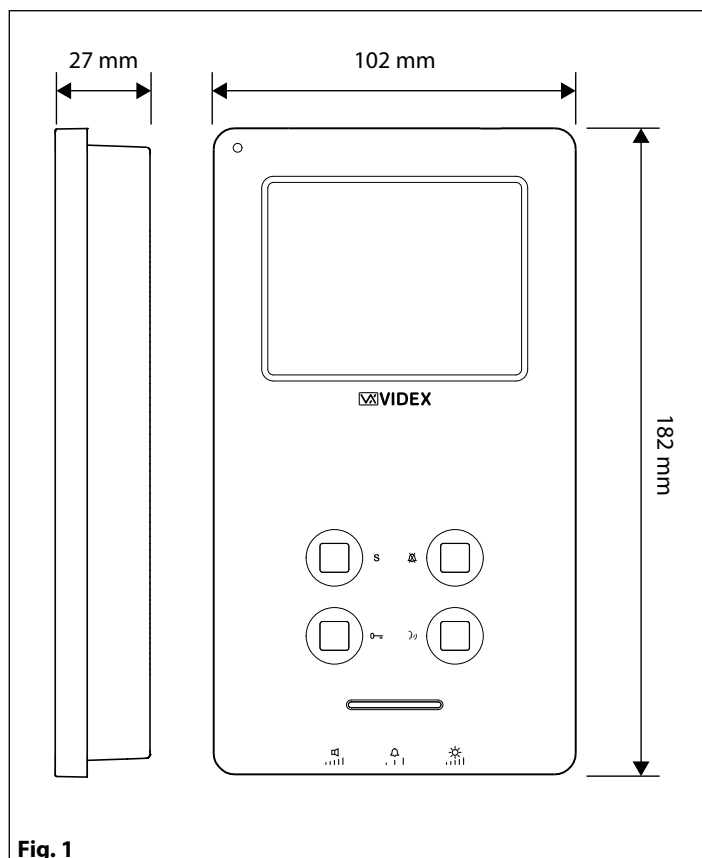
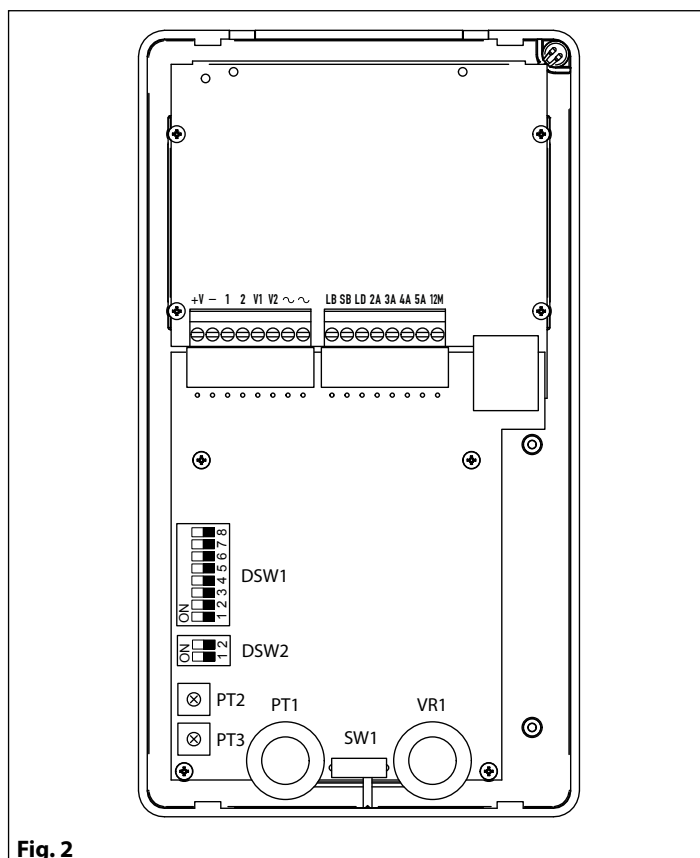

Fig. 1
Fig. 2
1. Place the surface box against the wall (165-170cm between the top of the box and the floor level as shown in **Fig. 1**) and mark the fixing holes for the wall plugs and the hole for the cables **E** (**fig. 2**). Observe the orientation of the box with the hinge on the left;
2. As shown on **Fig. 2**, drill the fixing holes **A**, insert the wall plugs **B** and feed the cables **E** through the surface box opening **D**, fix surface box **C** to the wall using the screws **F**;
1. Protect the module support frame fixing holes from dust then embed the back box into the wall (165-170cm between the top of the box and the floor level as shown on the **Fig. 1**) feeding the cables **E** (**Fig. 2**) through a previously opened hole in the box. Observe the direction of the box ensuring the hinge is on the left and take care that the box profile is in line with the finished wall profile;
## PUSH BUTTONS (FIG. 1)
**PUSH BUTTONS (FIG. 1)**
**LEDs (FIG. 1)**
**CONTROLS AND ADJUSTMENTS (FIG. 1 AND FIG. 2)**
1. In order to install the videophone, it is necessary to remove the cover, which contains all the electronics, from the base: press lightly on the bottom part of the videophone and simultaneously pulling outwards the upper part as shown in **Fig. 1**.
2. Put the base of the unit on the wall at approx 135cm from the finished floor to match the points for the fixing holes "A" (**Fig. 2**) remembering that the wires "D" (**Fig. 3**) must be fed through the large hole "E" (**Fig. 3**). If you use the flush mounting box 503, embed it into the wall vertically at approx. 140cm from the finished floor and the base.